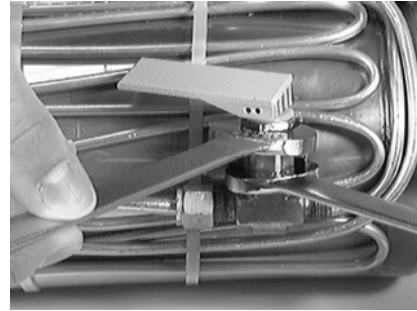

Figure 21: Vent Valve Removal
- 4) Use a 5/8inch open-wrench on the vent valve body hex flats to hold the body stationary. Use a 11/16 inch open end wrench to loosen the jam nut that holds the vent valve to the mounting bracket (Figure 21).